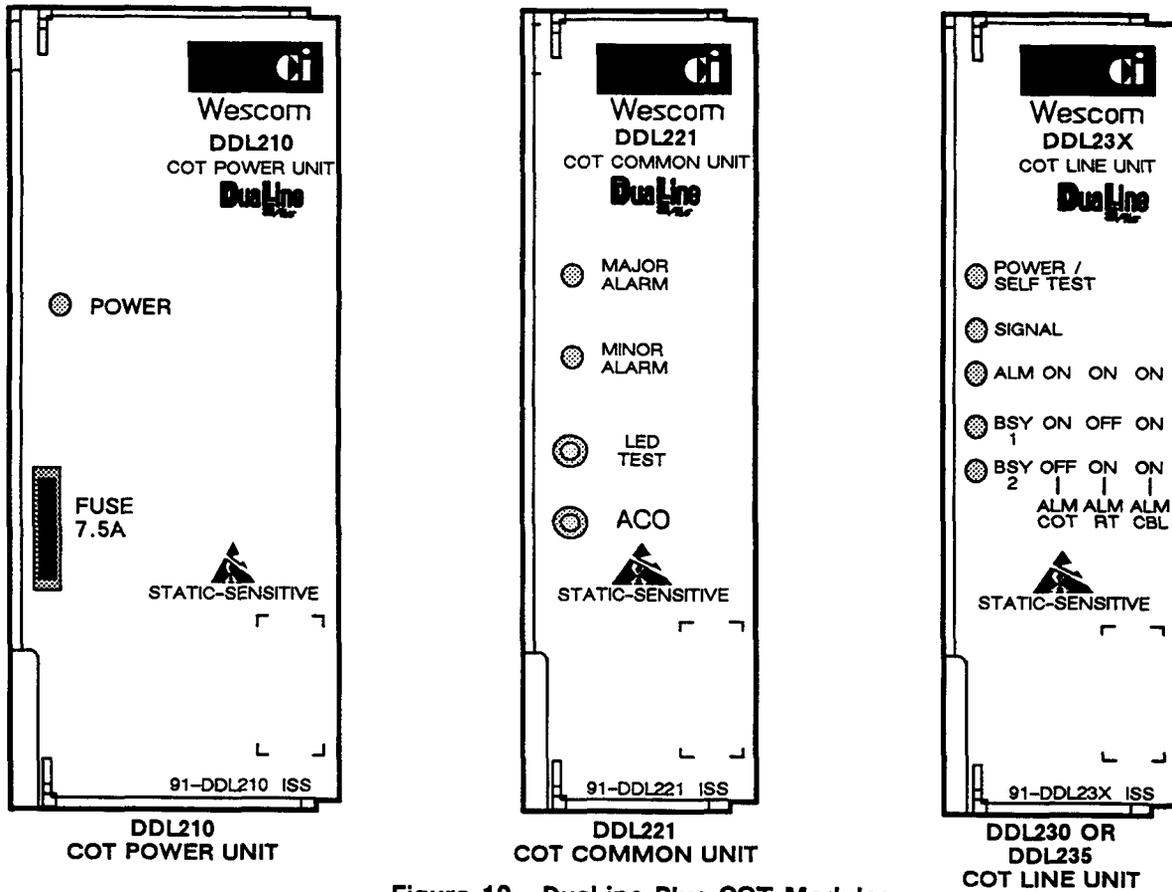

Figure 10. DualLine Plus COT Modules
There are three types of DualLine Plus modules used in the COT shelf; DDL210 COT Power Unit, DDL221 COT Common Unit, and DDL23X (DDL230 or DDL235) COT Line Unit (depicted in Figure 10). One COT Common Unit and one COT Power Unit are necessary for each shelf. They can power and control from one to twelve COT Line Units and their respective DDL1XX Remote Terminals (RT) at the subscriber sites. Each COT Line Unit provides the interface between two POTS lines and the DDL1XX RT.
- Insert and seat the COT Power Unit into its slot (see Figures 10 and 11). The POWER LED lights steady. If it does not light, there is a problem with the module or shelf power. Check the COT Power Unit fuse and shelf power at the shelf power terminal strip.
- Insert and seat the COT Common Unit in its slot next to the Power Unit (see Figures 10 and 11).
- Insert and seat the COT Line Units in their assigned slots per facility plan (see Figures 10 and 11). The POWER/SELF TEST LED of each module lights steady. If the POWER/SELF TEST LED blinks continuously (self test fail) or does not light for any COT Line Unit, replace that module.